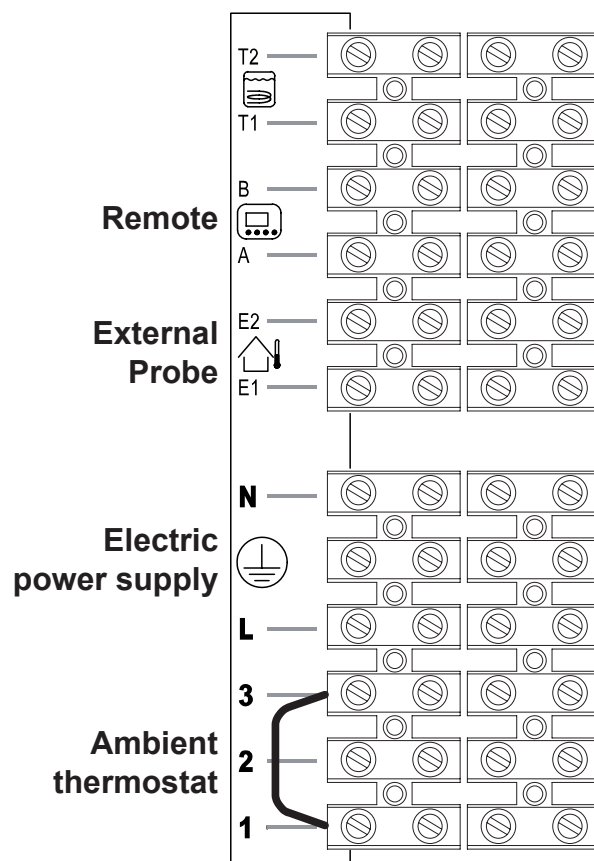
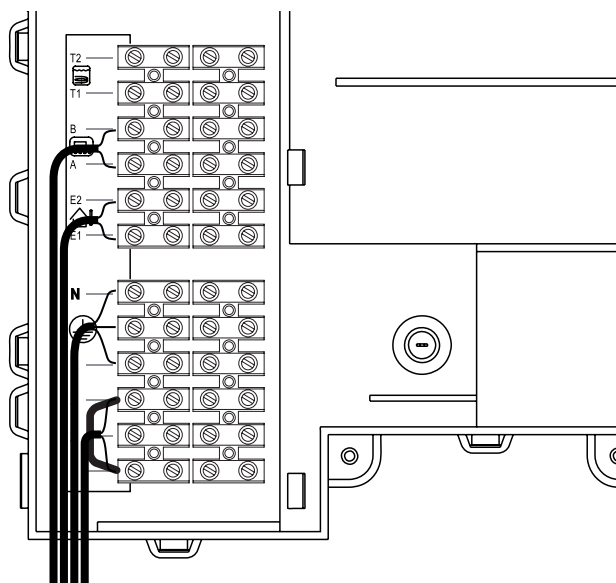
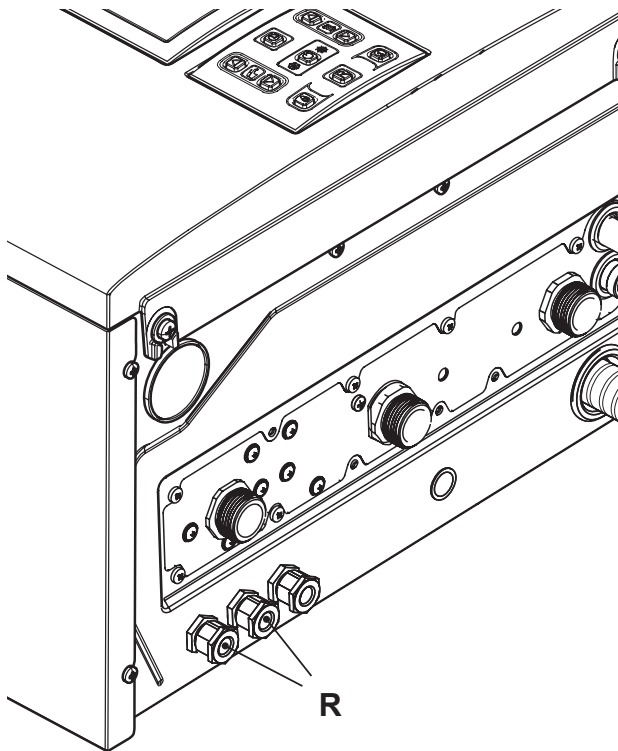

Fig. 6.16
Fig. 6.17
Fig. 6.18
- Connect the electric power supply cable coming from the fused spur isolation switch to the power supply terminal block of the boiler Fig. 6.16 keeping the same connections for the live (brown wire) and the neutral (blue wire). External 3A fuse or fused plug with same current rating is recommended.
The route of the boiler and ambient thermostat's electric power supply cable or wires must follow the route indicated in Fig. 6.17.
Allow the cables to exit the boiler by using the relevant cable clamps R (Fig. 6.18).
Use the clamps indicated in Fig. 6.16 to connect the ambient thermostat.
Use the ambient thermostat's clamps indicated in Fig. 6.16 and Fig. 6.17. to connect the zone valve. Insert the electric cables of the zone valve's micro switch contacts in clamps "1 and 3" of the ambient thermostat's terminal block as in Fig. 6.17.
The route of the boiler and ambient thermostat's electric power supply cable or wires must follow the route indicated in Fig. 6.17. Allow the cables to exit the boiler by using the relevant cable clamps R (Fig. 6.18).
The route of the external probe's connection wires must follow the route indicated in Fig. 6.17.
The route of the remote control cable must follow the route indicated in Fig. 6.17.